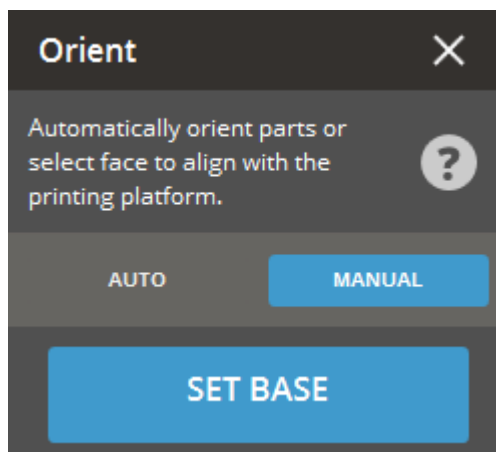

Figure 12 Orient Manual command
- Click on  (Manual tab) (Figure 12)